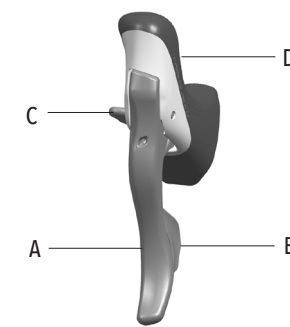

Fig.1
- Brake lever hood (D - Fig.1)
• Moving the lever A (Fig. 1) operates the brake: check which wheel corresponds to which lever by operating each of these one at a time.